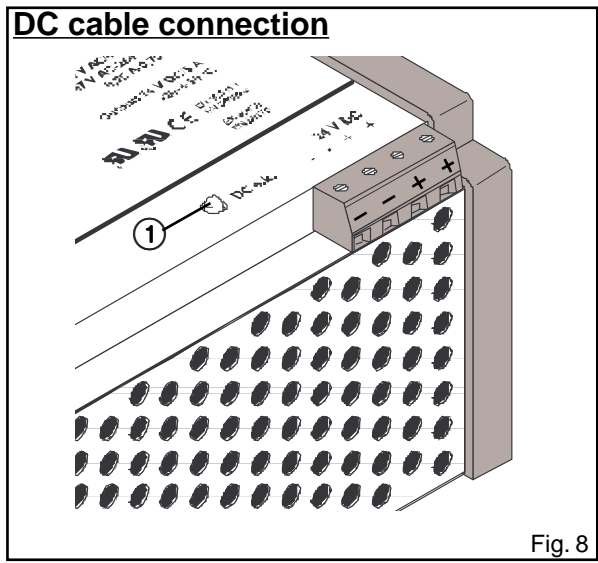

Fig. 8
Output (fig. 8): The 24 V DC connection is made using the "+" and "-" screw connections on the COMBICON plug connection (torque 0.5 Nm).
The DC o.k. control lamp (fig. 8 ①) signalizes a secondary voltage of more than 20 V DC. When the LED is off, there is either a short circuit on the secondary side, or the 120 V/230 V AC power supply has been interrupted.